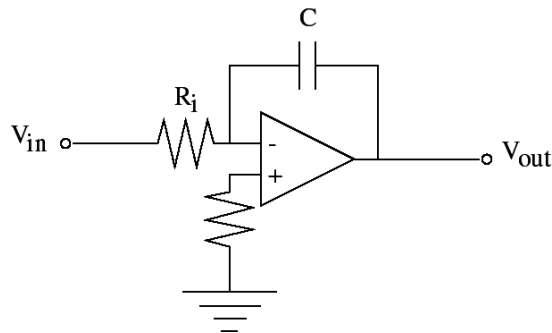

Figure 9: Integrator
4. Analyze the integrator circuit shown in Figure 9 by relating V_{out} to V_{in} assuming an ideal op-amp. Express A in Equation 2 in terms of C and R_1 .